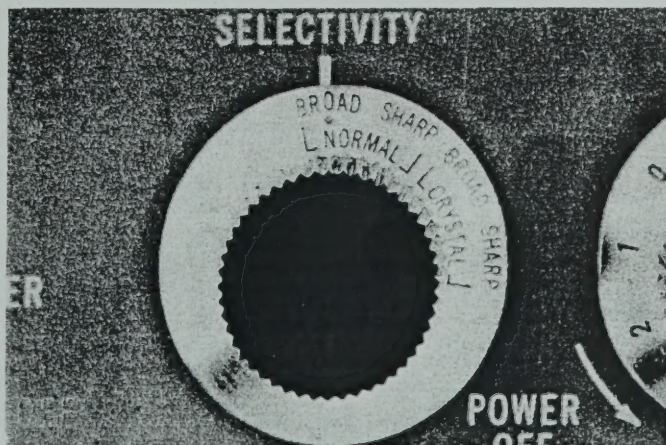

Figure 8. View showing Selectivity Control
10. The next control in sequence of importance is the SELECTIVITY control (See Fig. 8). This control is very useful when it is desired to tune in a weak station on a frequency close to a powerful one, in which instance the control should be switched to SHARP.